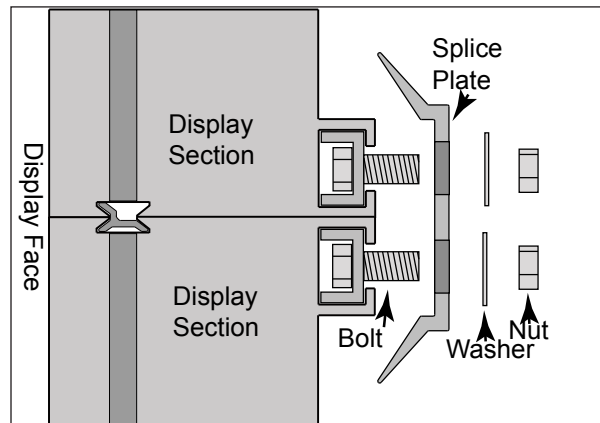

Figure 9: U-Shaped Splice Plate Installation
2. Locate the lower-left (BL) display section.
4. Locate the U-Shaped splice plates. Refer to **Figure 9**.